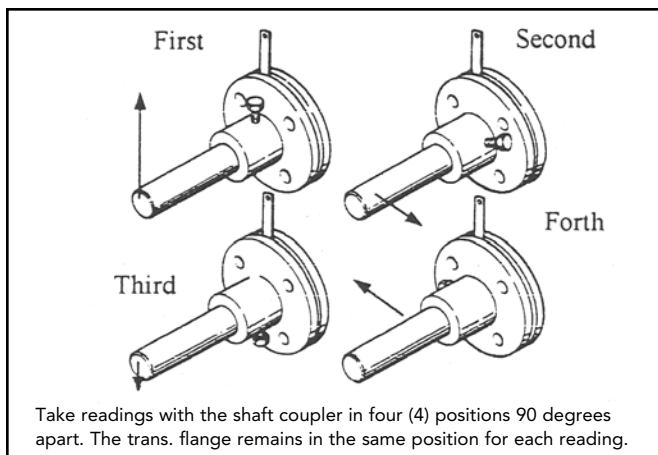

Figure 6. Determining Coupling Perpendicularity
The face of the coupler is best checked by taking four (4) feeler gauge readings at one location against the transmission flange and move the coupler in 90° increments for each reading (figure 6). Readings must be within 0.002 inch.